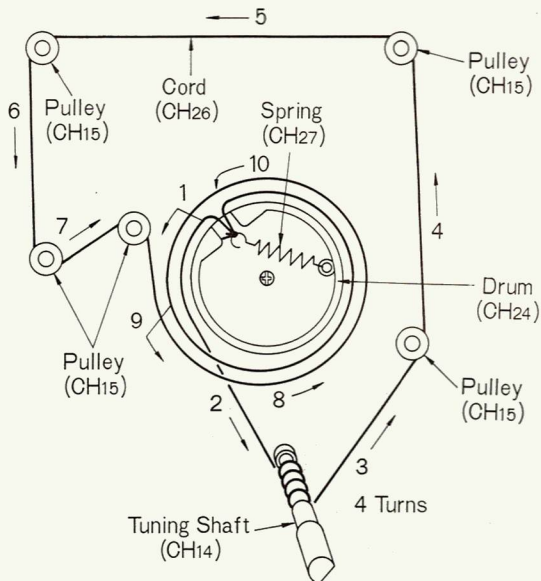

Fig. 27
5. Arrows (1~10) indicate correct order and direction of cord installation, as shown in fig. 27.